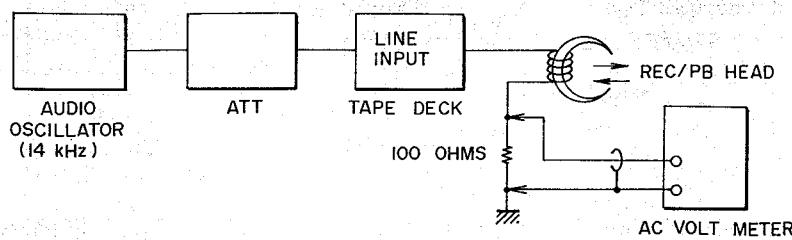

Fig. 22 Instruments Connection
| 4 | Rec Peaking | 14 kHz from an oscillator | FWD-REC | VL1 33Y-740 | Maximum AC Voltmeter indication | Refer to NOTES 7, 9 and Figs. 22, 23. |
7. Stop recording bias oscillator while making Rec Peaking Adjustment (Refer to Figs. 22, 23).